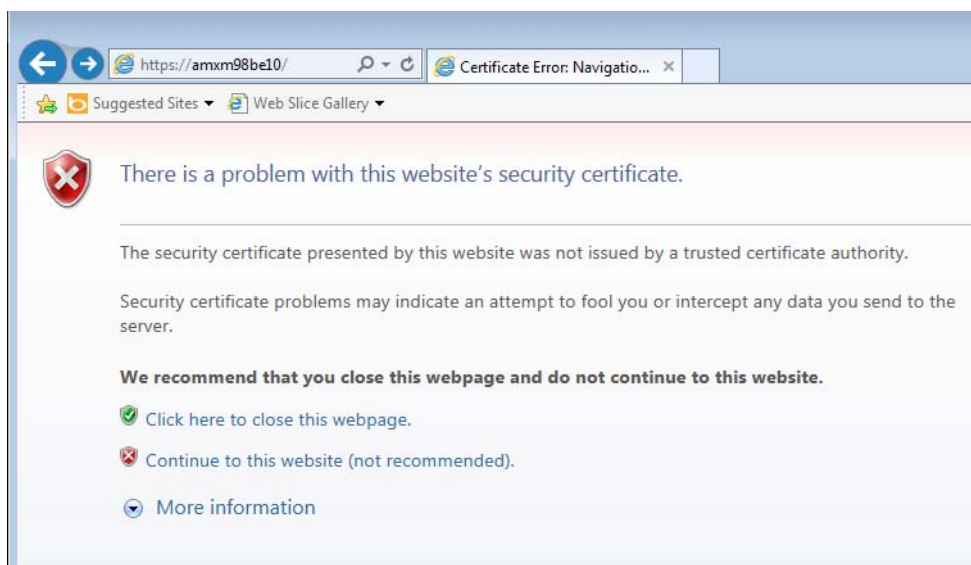

FIG. 61 Unknown Certificate Authority Message
2. Navigate to `https://hostname`. You should see the unknown certificate authority message (FIG. 61).